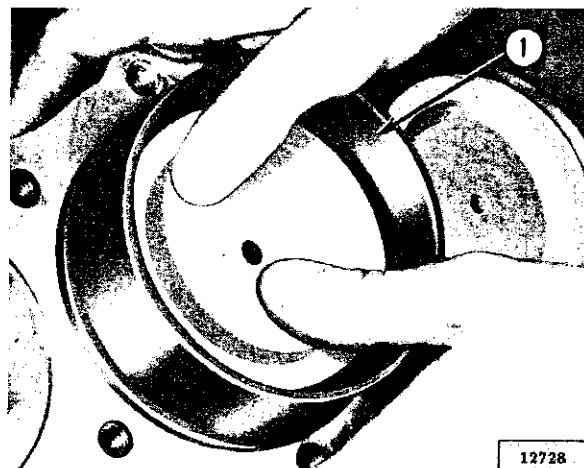

FIG. D1-33—INSTALLING PISTON AND CONNECTING ROD ASSEMBLY
- e. Lubricate the piston and rings. Compress the rings with a suitable piston ring compressor; install the piston and connecting rod assembly from top of cylinder bore. Refer to Fig. D1-33.